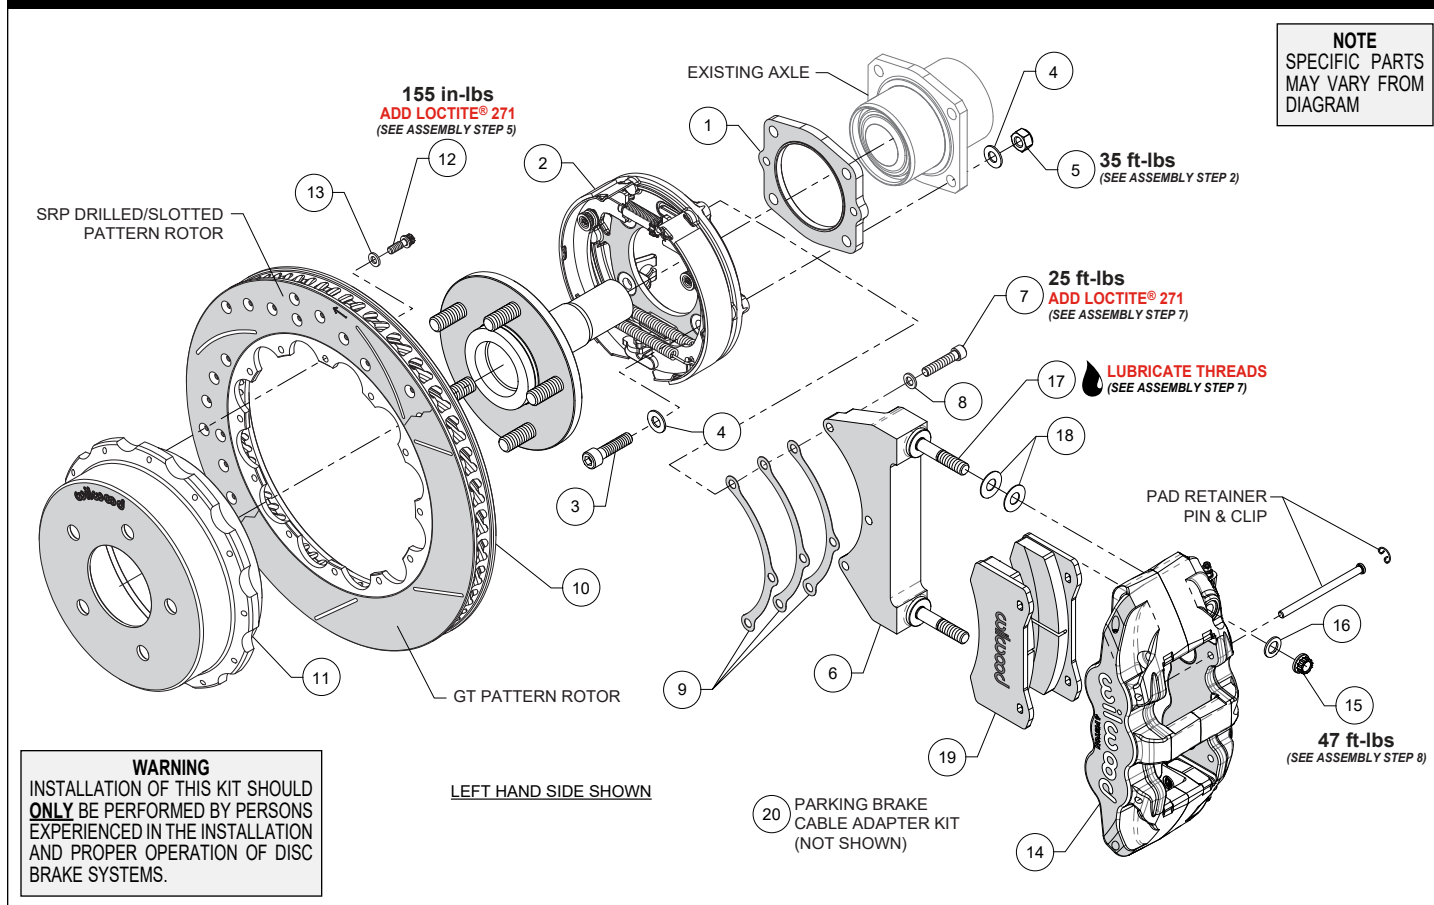
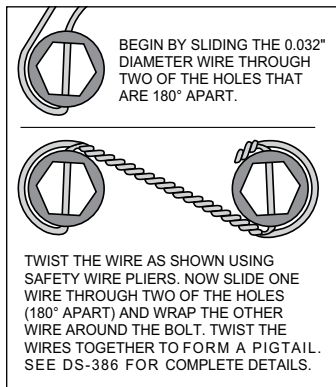

Figure 1. Typical Installation Configuration
Figure 4
NOTE: Numbers in parenthesis refer to the parts list and Figure 1 on the preceding pages.
STEP 1 Slide the parking brake assembly spacer (1) onto the axle housing as shown in Photo 1 and Figure 1. **NOTE:** Ensure the spacer fits flush against the axle flange.
STEP 2 Orient the parking brake assembly (2), as shown in Figure 1. **NOTE:** The brake shoe adjuster star wheel should be at the top of the assembly when mounted (see arrow, Photo 2). Mount assembly (2) to axle housing flange using bolts (3), washers (4), and locking nuts (5), Photo 2 and Figure 1. Ensure that the backing plate of the parking brake assembly fits flush against the spacer (1). Torque lock nuts (5) to value shown in Figure 1.
STEP 4 The radial mount caliper bracket (6) should initially be installed with clean, dry threads on the mounting bolts. Orient the bracket, as shown in Figure 1 and Photo 4, and install using bolts (7)
and washers (8). Initially place three .015" thick shims (9) on each bolt between the bracket and the backing plate of the parking brake assembly (2), Figure 1, Photo 3. Temporarily tighten the mounting bolts. **NOTE:** The bracket must fit squarely against the mount bosses on the backing plate. Inspect for interference from casting
STEP 5 Orient the rotor (10) and the hat (11) as shown in Figure 1 and Photo 5. Attach rotor to hat using bolts (12) and washers (13). Apply red *Loctite*® 271 to the bolt threads and torque to value shown in Figure 1 using a criss-cross pattern. For an added measure of security, the bolts may be safety wired using standard 0.032 inch diameter stainless steel safety wire as shown in Figure 4. Refer to Wilwood's data sheet DS-386 (available at www.wilwood.com/Pdf/DataSheets/ds386.pdf) for complete safety wire installation instructions.
STEP 7 Lubricate the caliper mounting studs (17) with lightweight oil. Initially place two .030" thick shims (18) on each stud between the caliper and the radial mount caliper bracket, as shown in Figure 1 and Photo 7. Mount the caliper (14) onto the radial mount caliper bracket (6) using lock nuts (15) and washers (16), Figure 1. Temporarily tighten the lock nuts and view the rotor through the top opening of the caliper. The rotor should be centered in the caliper, Photo 8. If not, adjust by adding or subtracting .015" shims (9) as necessary between the radial mount caliper bracket (6) and the backing plate of the parking brake assembly (2). Once the caliper alignment is correct, remove the radial mount caliper bracket bolts (7) one at a time, apply red *Loctite*® 271 to the threads, and torque to value shown in Figure 1.
STEP 8 Remove the caliper from the bracket, then remove the caliper pad retainer clip and pin. Insert the brake pads (19) into the caliper from the bottom side, with the friction material facing the rotor, as shown in Photo 9. Mount the caliper and check that the top of the brake pad is flush with the outside diameter of the rotor, Photo 10. If not, adjust by adding or subtracting shims (18) on the studs (17) between the caliper and the bracket (6). After the caliper pad height is set, reinstall the pad retaining pins and clips, Figure 1. Torque the caliper lock nuts (15) to value shown in Figure 1.